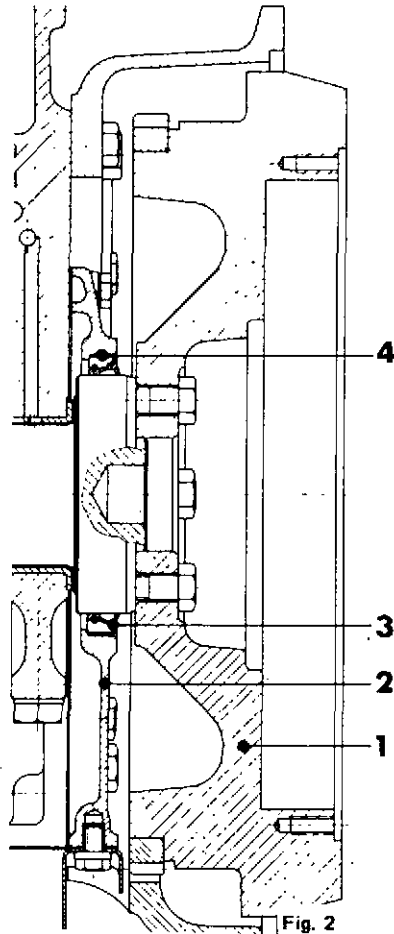

Fig. 2
- Unscrew flywheel (Fig. 2/1).
- Unscrew front wall cover with sealing ring (Fig. 2/2).
- Press shaft seal out (Fig. 2/3), making sure not to damage seal seat in cover (Fig. 2/4).